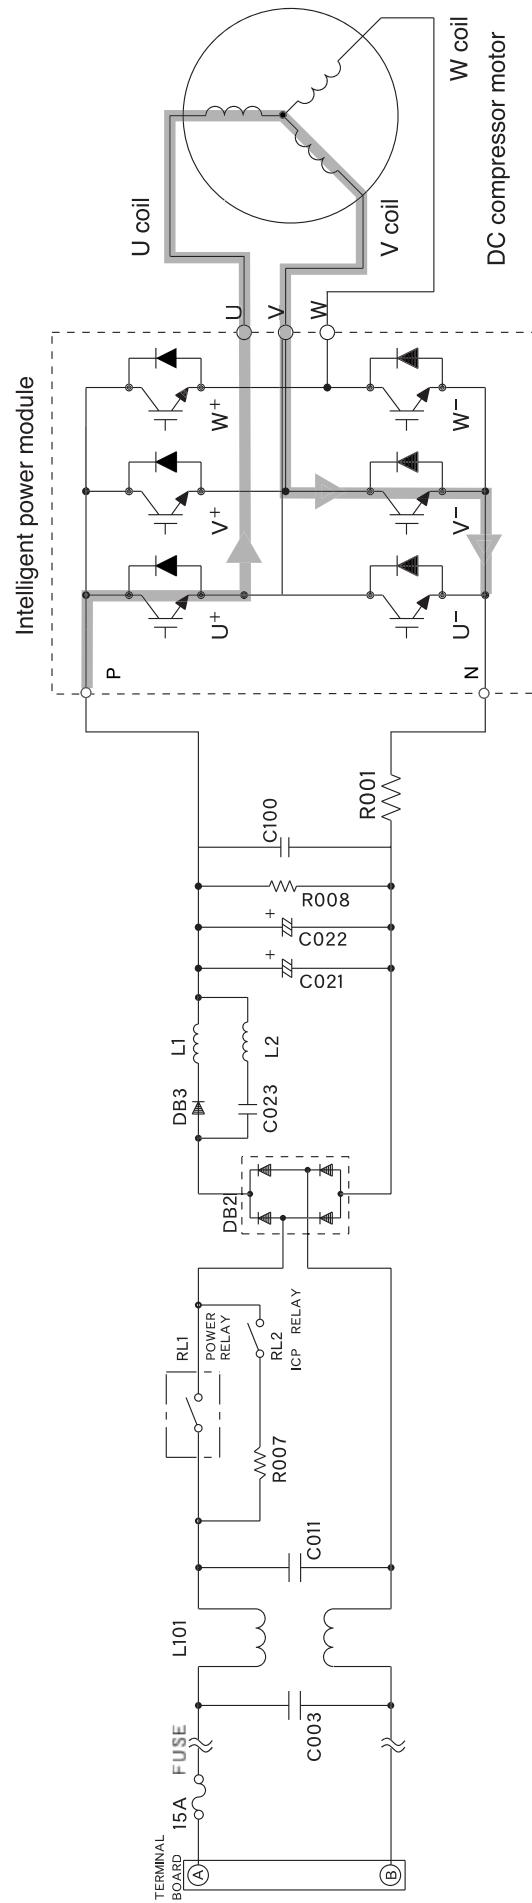
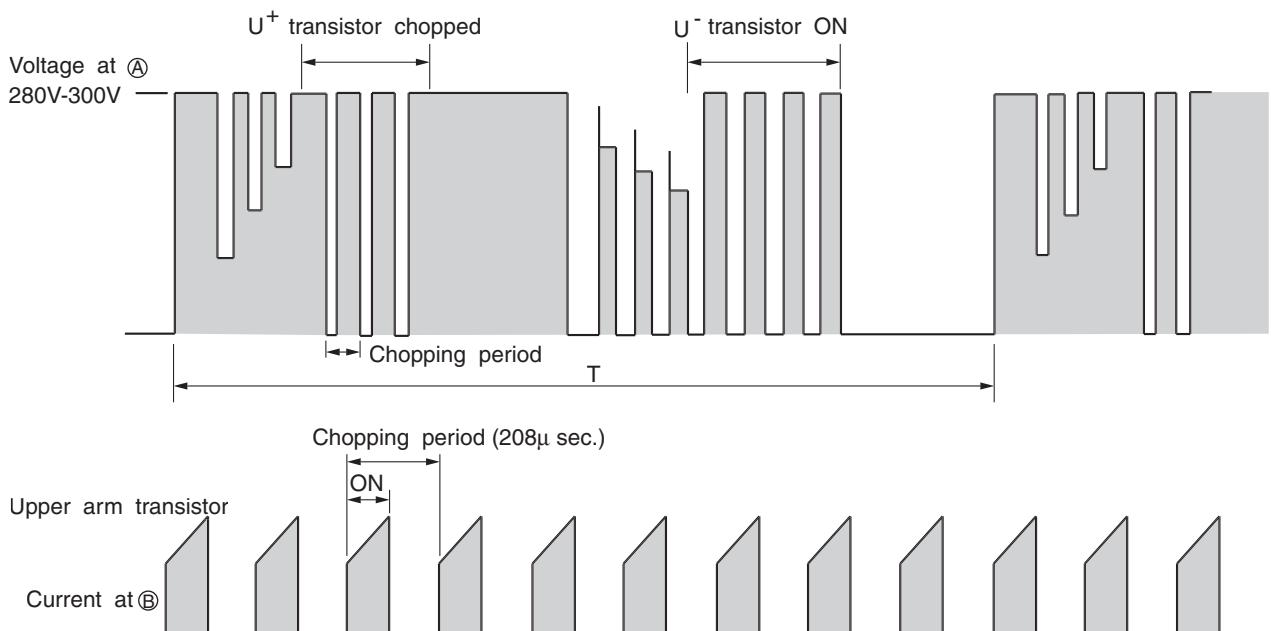

Fig. 3-1 System power module circuit ( $U^+$  is ON,  $V^-$  is ON)
Fig. 3-3 Voltage waveform at each point
Fig. 3-1 shows peripheral circuits of intelligent power module (IPM).
At point ⑤: U+ is ON, V- is ON (circuit in Fig. 3-1)
Fig. 3-3 shows voltage waveform at each point shown in Figs. 3-1 and 3-4. First half of upper arm is chopper, second half is ON, and first half of lower arm is chopper, second half is ON.
- (1) When U+ transistor is ON: U+ transistor → U coil → V coil → V- transistor → DC current detection resistor → Point B (Fig. 3-3)
Since current flows at point (B) only when U+ transistor and V- transistor are ON, the current waveform at point (B) becomes intermittent waveform as shown in Fig. 3-3. Since current at point (B) is approximately proportional to the input current of the air conditioner, input current is controlled by using DC current (Id) detection resistor.